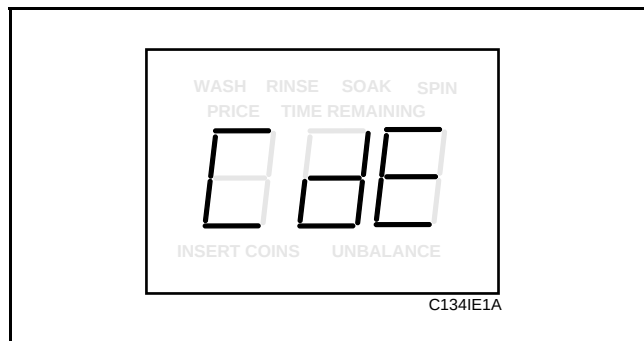

Figure 98
3. Press the DELICATES (+) pad or the COLD (–) pad to scroll through the programmable options until “CdE” appears in the VFD. See **Figure 98**.